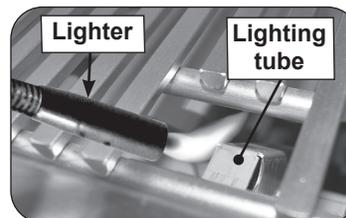

Fig. 37-2 Manual lighting via lighting tube
**CAUTION:** Always wait five (5) minutes for gas to clear after any unsuccessful lighting attempt.
2. Insert either a burning long-barrel butane lighter or a burning long-stem match through the cooking grid opening to the top of the lighting tube (see Fig. 37-2). For back burners, power burners, or infrared burners, hold the flame against the surface of the back burner/power burner/infrared burner.